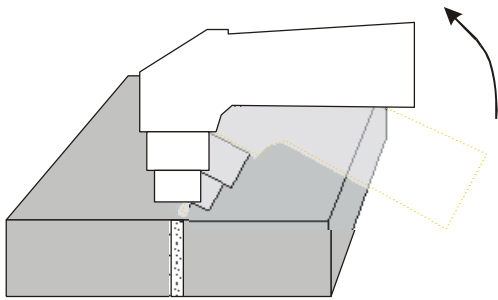

Fig. 6
4. To achieve a good cutting quality make sure the distance between the tip and the material is about 2 mm. The Standoff Guide ABI25/45 pos 22 located at the end of the plasma torch guarantees the distance. At a greater distance decreases cutting power and the arc may go off. With too small distance the torch parts will be worn off faster.
6. We recommend starting cutting at the edge of the material. If needed to start from the centre of the material, or to cut hole into the material, slightly tilt the torch head and gradually it straighten into a vertical position so the spraying material would not damage the cutting tip (see Figure 6). This workflow must always be followed, if the thickness of material is above above 3 mm.